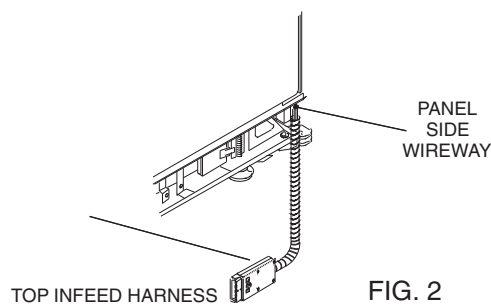

FIG. 2
5. If you did not do so in the panel prep., feed the top infeed harness conduit up the panel side wireway from the bottom of the panel (Figure 2). Guide the conduit through the top infeed trim cap when it reaches the top of the panel. In the raceway of the panel, plug the female terminal on the top power infeed into the male terminal of the rigid wireway.